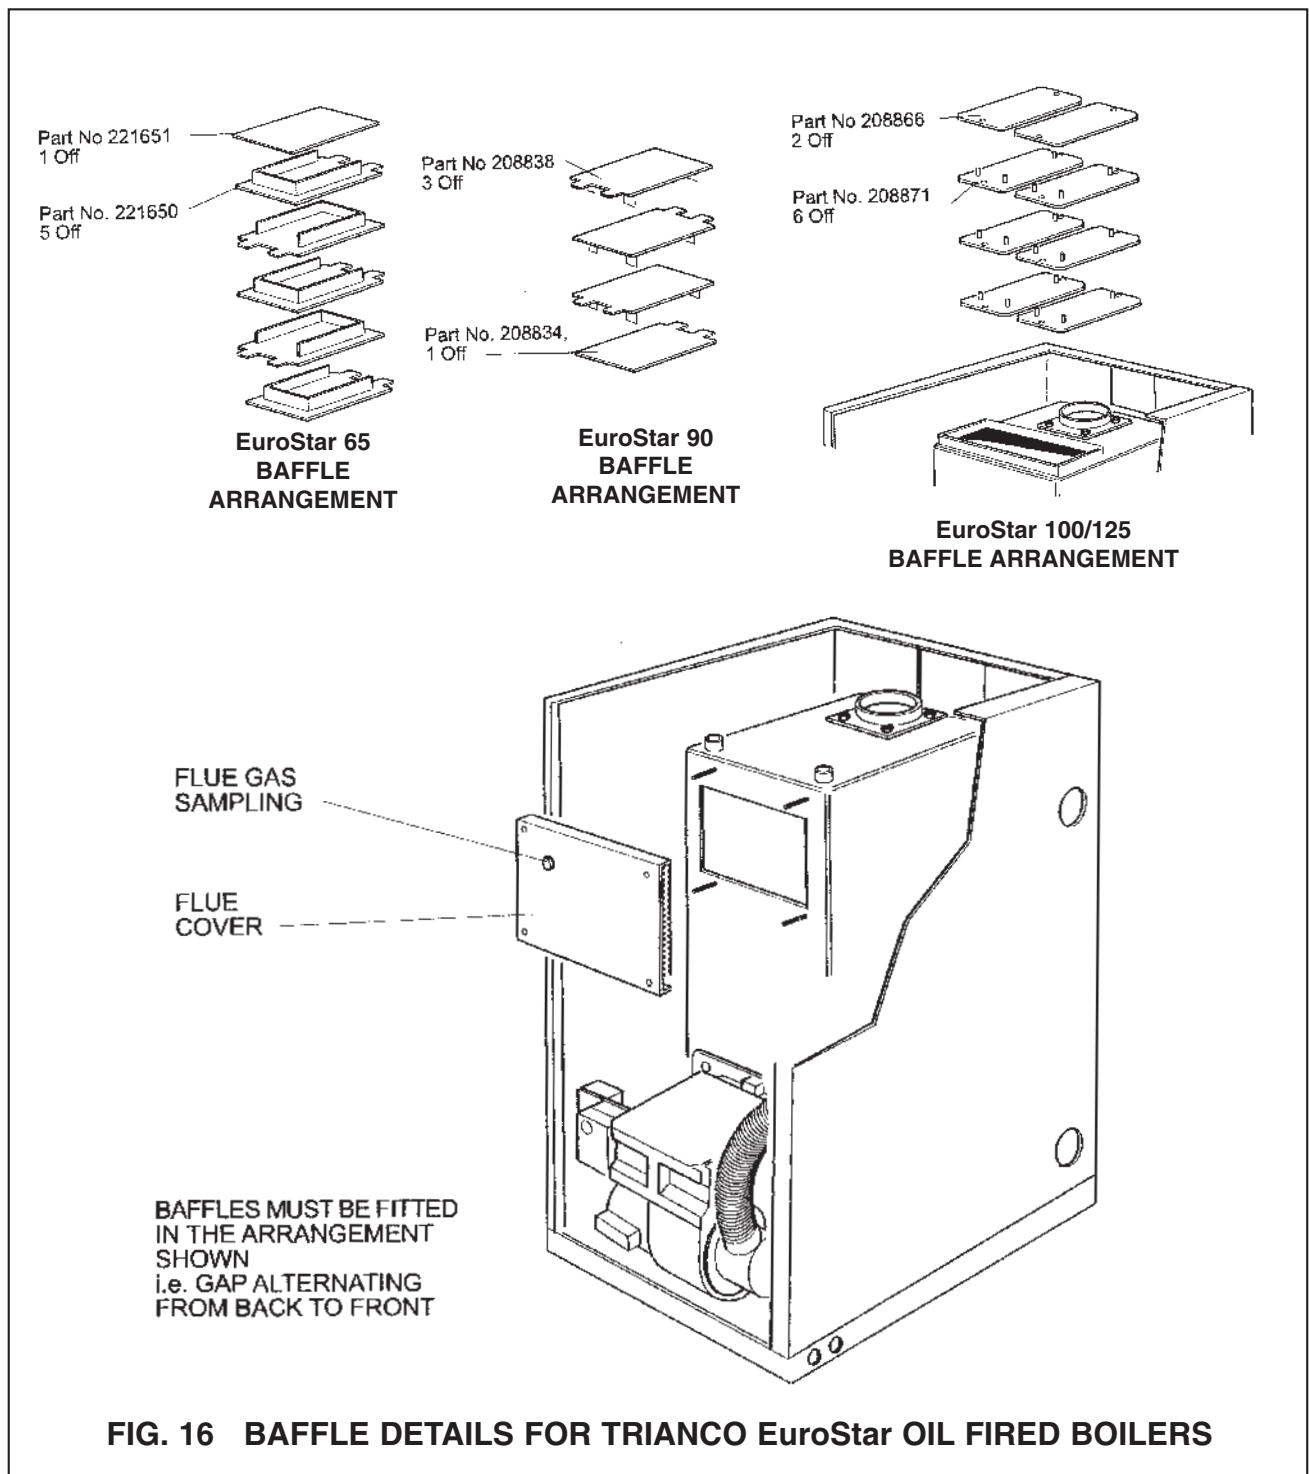

FIG. 16 BAFFLE DETAILS FOR TRIANCO EuroStar OIL FIRED BOILERS
3. Remove flue-cover and check that flue-baffles are correctly positioned (See Fig 16 for baffle arrangement).
(See Fig. 16).
(See Fig. 16 for order of assembly). Refit the flue-cover and fully tighten wing-nuts to make a gas tight seal.